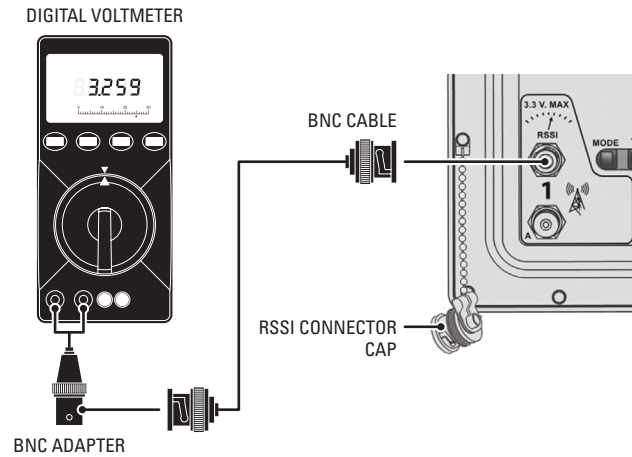

Figure 21. Connecting a DVM to the EW5001
5. Uncap the RSSI connector on the EW5001 (refer to Figure 21).